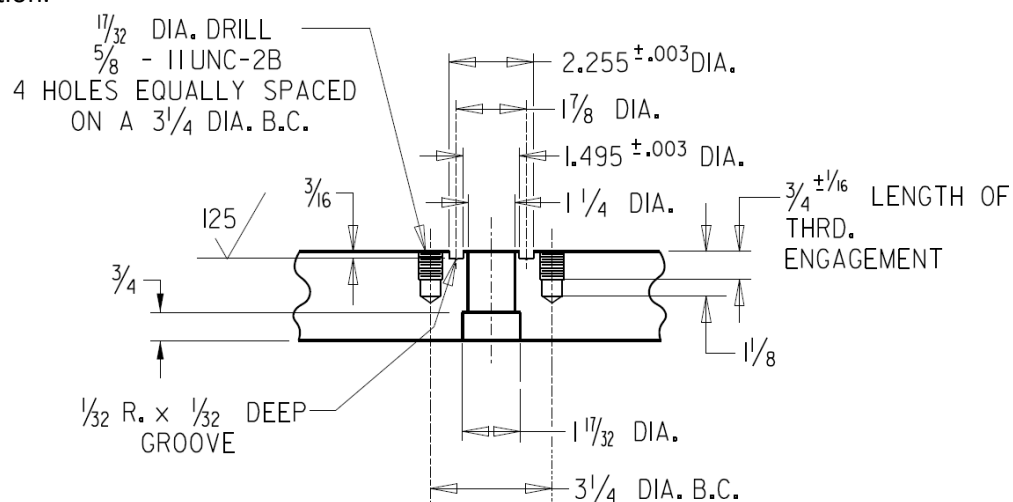

Figure 4: Fittings Flange Dimensions
- 6.4. Measure the tank car fittings flange and verify the hole, groove, and bolting dimensions match the ones shown in AAR MSRP CIII App. E, Fig. E.18.25. Figure 4 below shows the dimensions for verification.